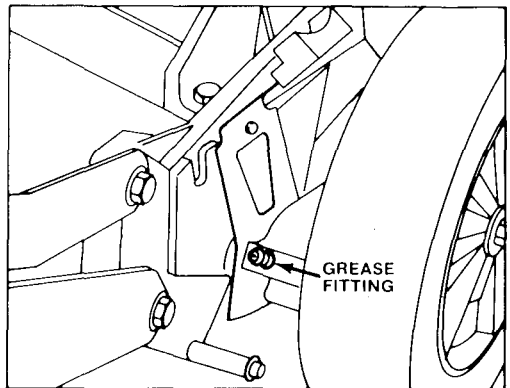

Figure 22
2. Move rear wheel height-of-cut levers to "C" setting. Wipe grease fittings with clean rag (Fig. 22). Install grease gun onto fitting and gently apply 2 or 3 pumps of #2 Multi-Purpose Lithium Base Grease. Excess pressure may damage seals.